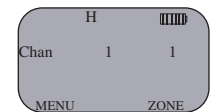

Figure 7
*Note: H= HI Power/ M=Medium Power/ L=Low Power (See Figure 7)*